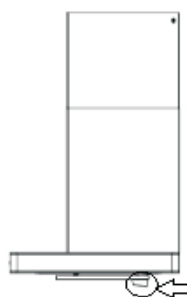

Fig.10
- Oil collector removing reference drawing steps (Fig.10).